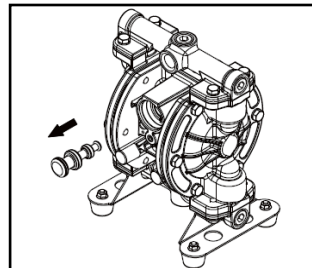

Figure 44
- Remove Spool Assembly by pushing it from cap A side (the side without reset button). (See Figure 44).